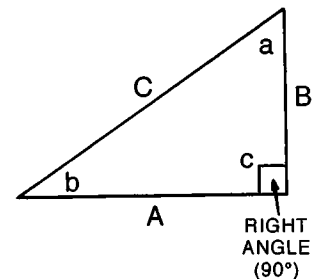

Figure A2
3. (180) One of the most commonly triangles you will encounter is the right triangle. A right triangle contains one 90° angle. Figure A2 shows a typical right triangle.
4. (right) In Figure A2, the right angle is identified by the letter _____.
6. (90) In order for the sum of angles a and b to be 90° , each must be less than 90° . Any angle less than 90° is called an acute angle.
8. (two) Angle c in Figure A2 is a right angle, while angles a and b are acute angles.
In Figure A2, angle a = 35°. Angle b = _____ degrees.
The sides that form the right angle in Figure A2 are _____ and _____.